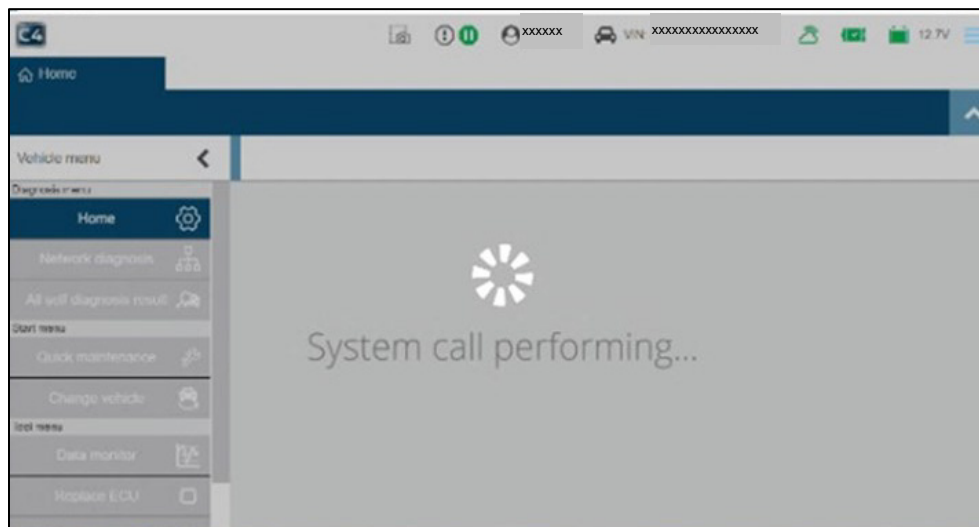

Figure 6
12. Allow system call to perform (Figure 6).